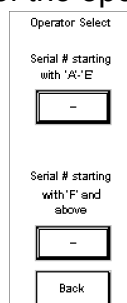
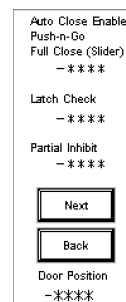

Fig. 6
Fig. 7
4. Selecting Standard will give you the screen shown in Fig. 6. Choose the appropriate serial number series of the operator, to get to the first preset screen (Fig. 7)
5. You'll be given a display of the first three user presets (Fig. 7). To edit a preset, simply touch the preset number.
7. Press 'Next' (Fig. 7) to display the remaining user presets or 'Back' to return to the previous screen.